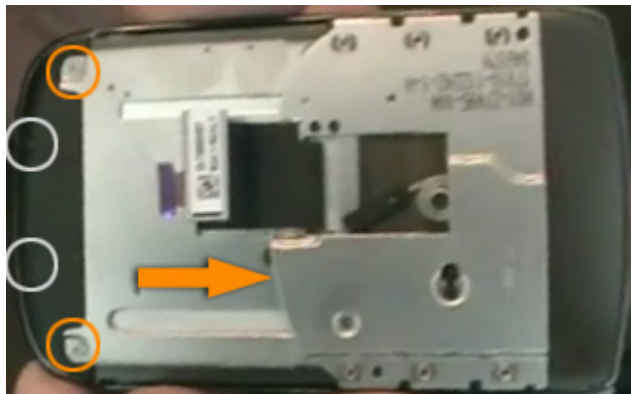

Figure 7
- Now slide the bottom sliding part up to remove two more screws at the bottom, the locations are shown in the figure 7. Use a T2 Torx screwdriver to unscrew these screws.
- You will now need to remove a small black plate at the bottom of the unit but in order to do that you will first have to unscrew two more screws from the black plate using T3 Torx screwdriver. The locations are shown in the figure 7. Once you have these screws removed, lift up and remove the plate.